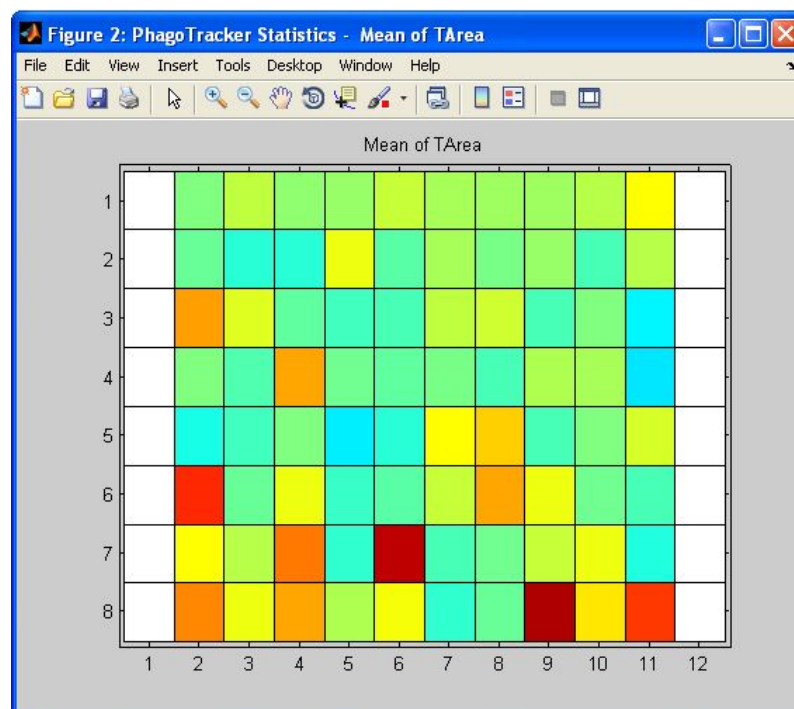

Figure 11: Plate view of average Total Area of manually confirmed tracks
- *Plate view* – Plate summary of the scores (plate scores) is displayed in spectral-color code. The color scale is set by the mean and standard deviation of the scores for individual wells. When *Scaling By all control wells* is used the mean value of the score in the control wells is used as the center (green) of the color scale, while the larger/smaller values indicates the range (red to blue). If no Scaling is used then the mean of score over all the wells is used as the center (green). Figure 11 shows a plate view of the average (mean) Total Area of manually confirmed tracks in each well.